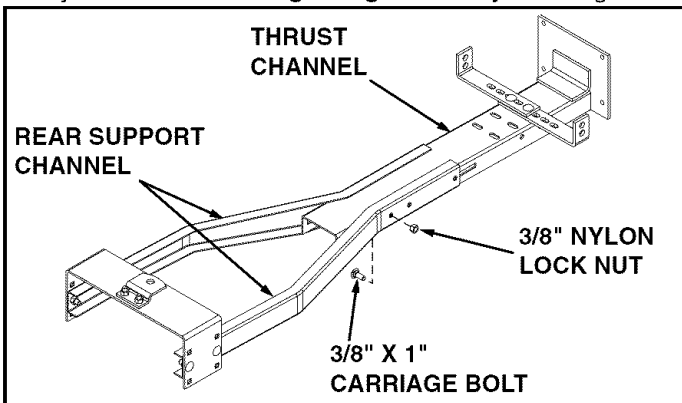

FIGURE 4
- Fit the Thrust Channel between the Rear Support Channels. Align the rear slots in the Thrust Channel with the rear holes in the Rear Support Channels and install two 3/8" x 1" carriage bolts and 3/8" nylon lock nuts. **Finger Tighten only.** See figure 4.